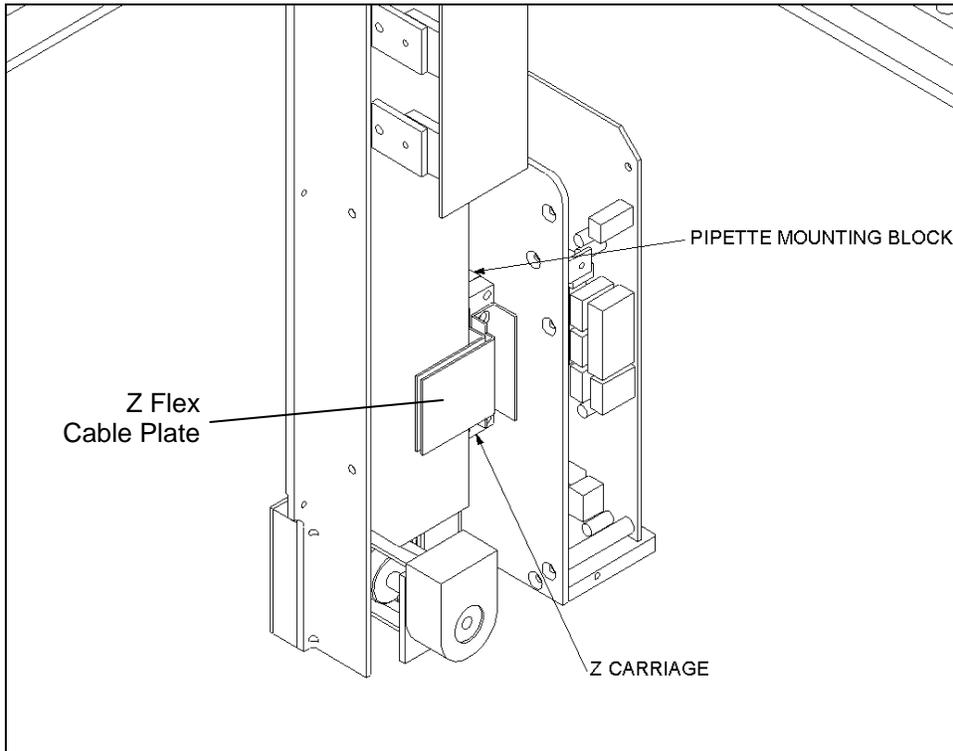

Figure 7-11 Mounted Pipette Assembly
- 7 Remove the Pipette Assembly from the Z-Drive Assembly by removing the two M3 x 12 SHCS screws that attach the Pipette Assembly to the Drive Assembly (Figure 7-11). The block is pinned, so rocking the pipette from left to right will frequently aid in removing the module from the Z mount.